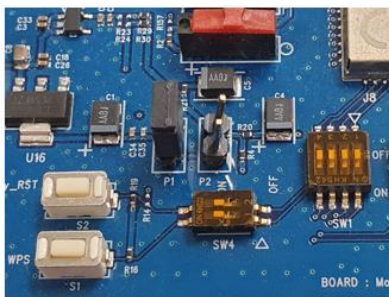

Figure 50: Setup DA16200 EVB Jumper
2. Open the two jumpers (P2) of the power line on the DA16200 EVB as shown in Figure 50.